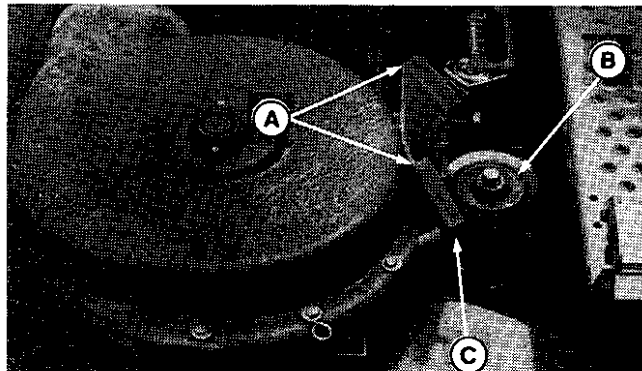

Figure 15.
- c. Place mower in low cut position. Raise the flap (A, figure 15) and install the blower drive belt(D) in the top groove of the pulley(B). (Pivot cover B, figure I I, away to expose flap.)
- d. Rotate the pivoting cover (B, figure I I) into place and attach the hook (C) to the clip (D) on the housing.